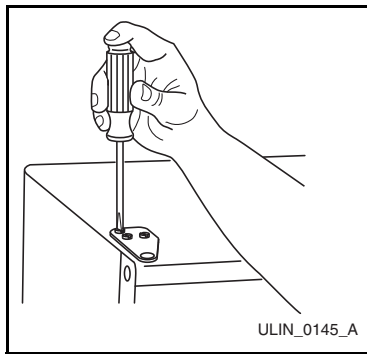

Figure 17
10. Remove three plastic screw plugs (**Figure 17**) from hinge holes, top of cabinet, opposite side. Be careful not to scratch cabinet.